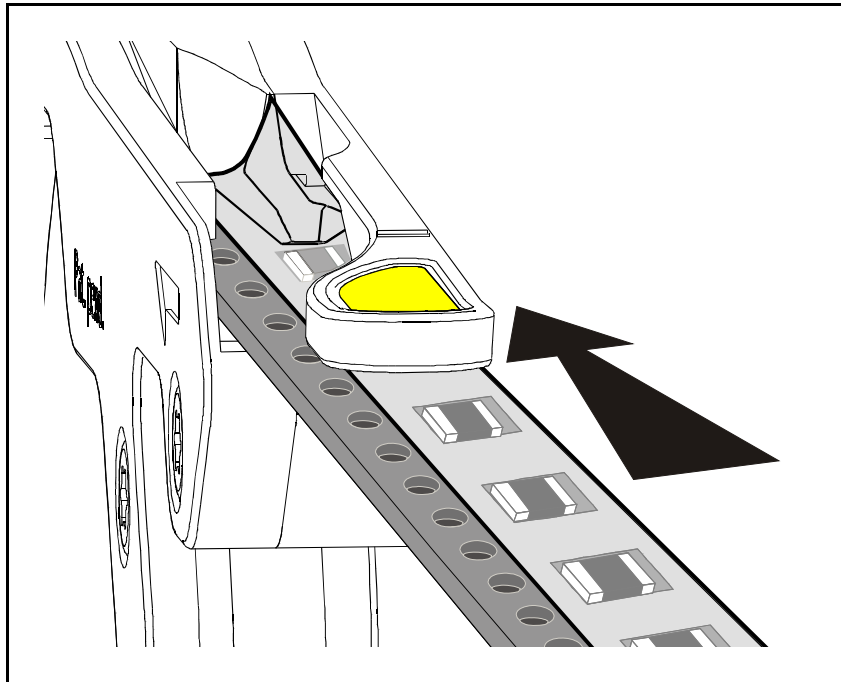

Figure 5-7. Threading tape onto feeder.
1. Cut the tape straight off with a pair of scissors. Then push the tape into the feeder. Make sure the carrier tape is running below, and the cover tape above, the feeder rail, see Figure 5-7.